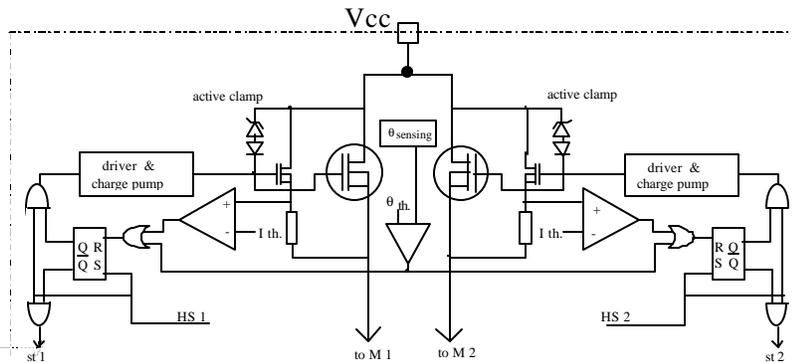

**Figure 7** – IC Logic circuitry for under-voltage lockout, sleep mode, non-braking mode and charge/discharge reset signal.
This block, shown in Figure 7, contains functions that simplify the use of the IR3220S. One of them is the Under Voltage Lock Out that inhibits the IC when the Vcc voltage goes down to 4V. Cycling IN 1(2) allows restart as soon as Vcc exceeds 5 V. The Sleep Mode circuitry switches the entire IC into the low-current consumption mode (10  $\mu$ A typ.) when IN 1 = IN 2 = 0. Notice that both LS MOSFETs remain ON during the Sleep Mode. A Non-Braking Mode is added when IN 1 = IN 2 = 1. Finally, the charge/discharge-reset signal is generated when the H-Bridge is Off (braking or not) and the open collector output of the DG pin is activated due to the inner HS switch status.